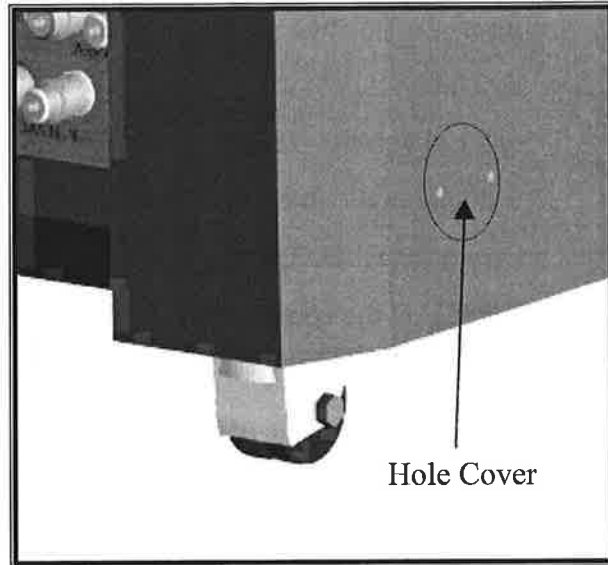

FIGURE 24 HOLE COVER ON STAND
- Remove the hole covers located on the base by removing the 4-40 screws (see Figure 24).